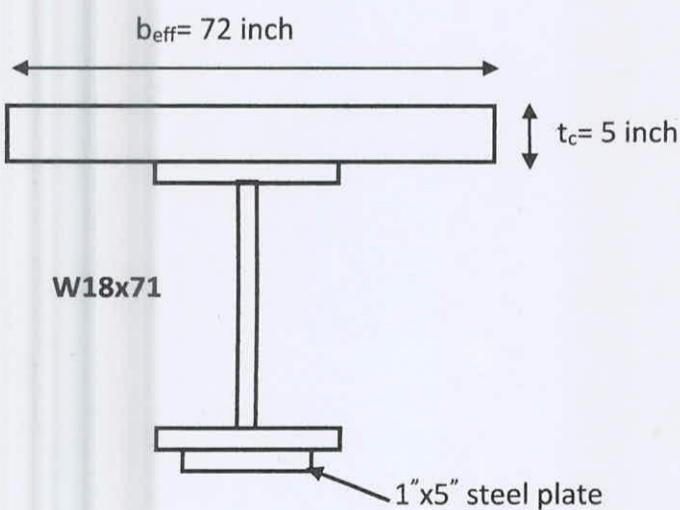

Fig. 3
5. For the composite beam section shown in **Fig. 3**,